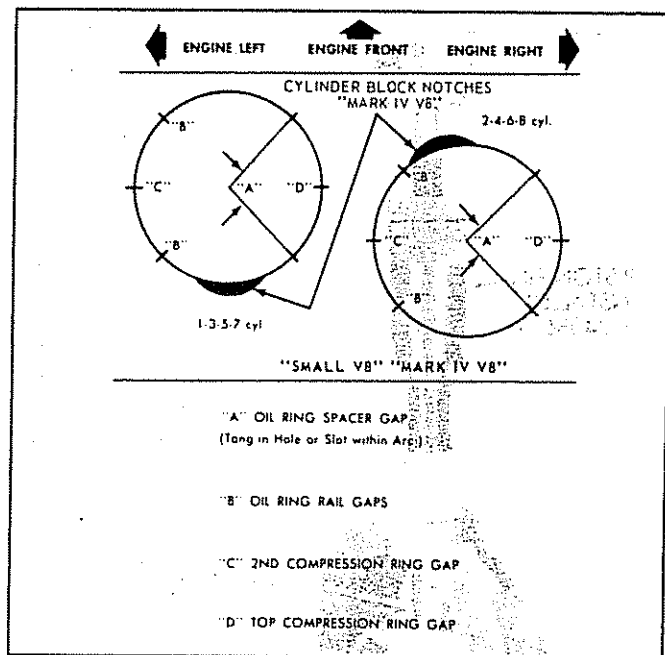

Fig. 6A2-70--Ring Gap Location
**CAUTION:** Be sure ring gaps are properly positioned as previously outlined (Fig. 6A2-70).